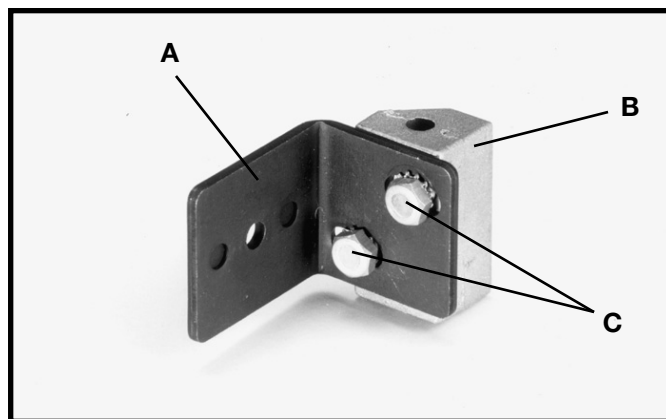

Fig. 9
3. Fasten the splitter support bracket (A) Fig. 9, to splitter bracket (B) using two 1/4-20 x 1/2" Hex Head Screws (C), and two 1/4" external tooth lockwashers as shown. **NOTE: Do not completely tighten screws (C) at this time.**